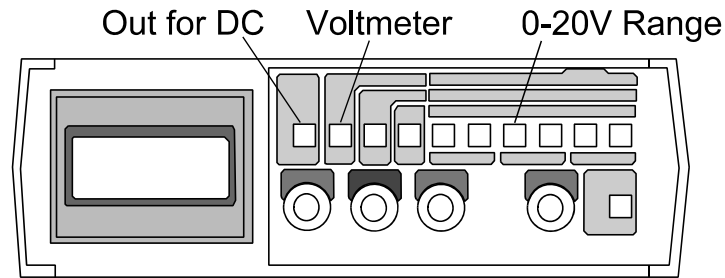

Figure 8-6
- A7. Convert the DMM into a 0-20V DC voltmeter by pressing the buttons shown in Figure 8-6.